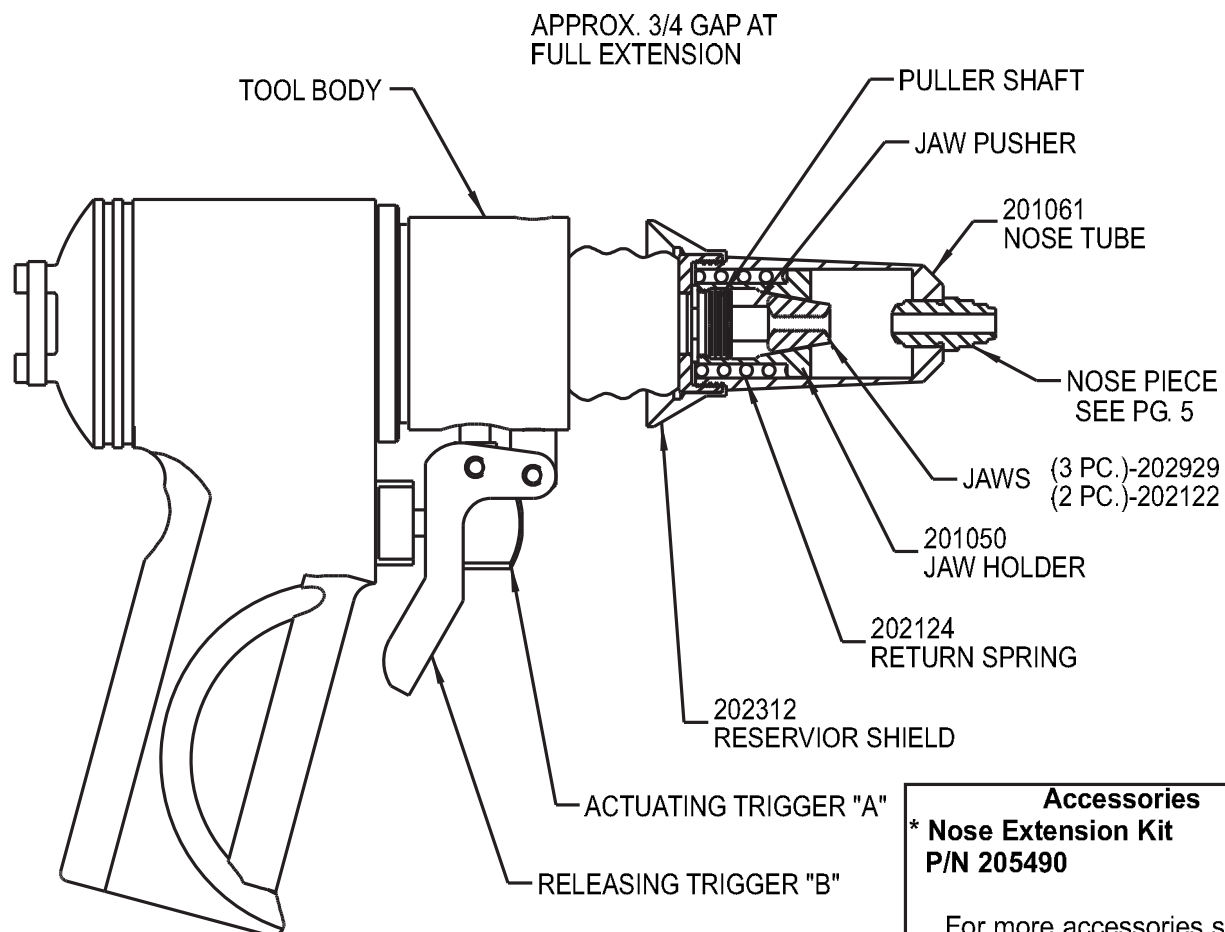

Figure 1
2. Actuate tool until it is fully extended. (There should be gap of approximately 3/4" in between the RESERVOIR SHIELD and the tool body.(see fig. 1)